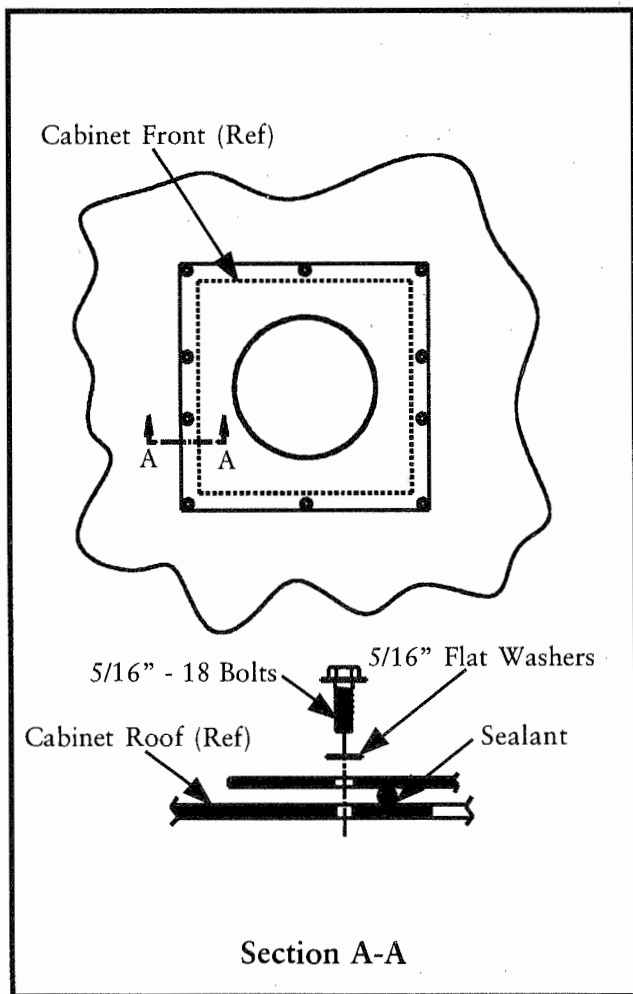

Figure 9
2.6.3 Inlet Collar Installation (See Figure 9)